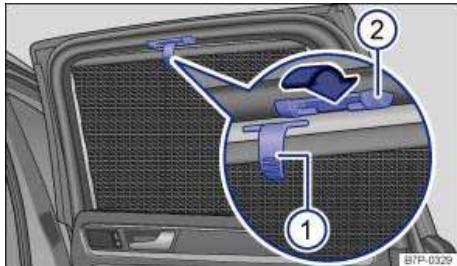

Fig. 90 Sunshade in the rear right window.
- Pull the sunshade all the way up by the projecting handle ⇒ fig. 90 (1).
- Insert each eye of the handle into the corresponding mount (2). Make sure that the extended sunshade is safely hooked into both mounts (2).